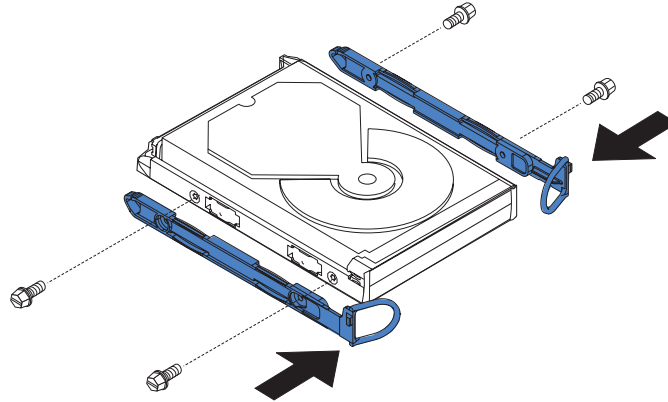

Figure 127. Attaching the rails to the SAN Volume Controller 2145-4F2 disk drive
1. Find the rails and screws that are shipped with the new disk drive and attach the rails to the disk drive, as shown in Figure 127 on page 401.